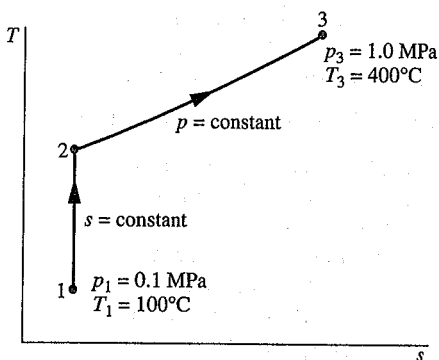

Fig. P6.21
6.21 One kilogram of water in a piston-cylinder assembly undergoes the two internally reversible processes in series shown in Fig. P6.21. For each process, determine, in kJ, the heat transfer and the work.